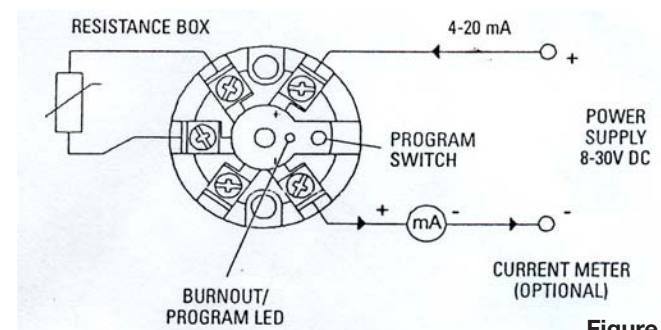

Figure 3
1. Connect circuit as shown in Figure 3 and set the Resistance Box for temperature required at 4 mA.